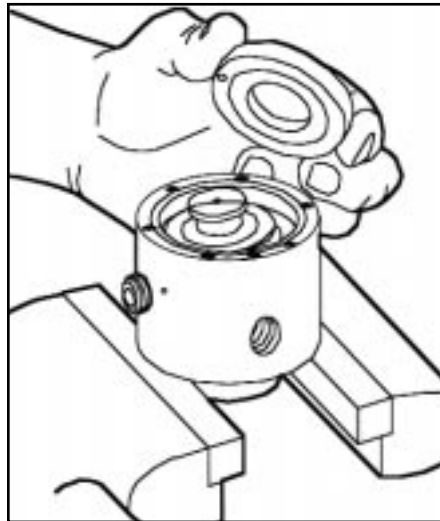

Figure 10
4. Now remove the upper spool and the lower spool assembly (3 pieces). (Fig.10 & 11)